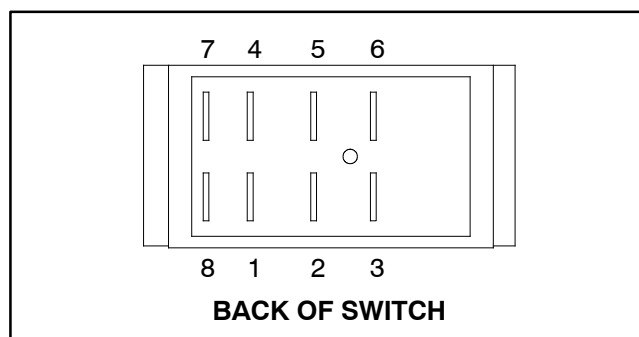

Figure 18
3. The switch terminals are shown in Figure 18. The circuit logic of the sonic boom switch is shown in the chart to the right. With the use of a multimeter (ohms setting), the switch functions may be tested to determine whether continuity exists between the various terminals for each switch position. Verify continuity between switch terminals. Replace switch if testing identifies a faulty switch.